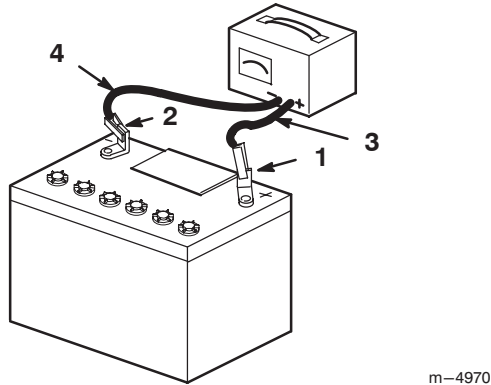

Figure 3
- Connect a charger to the battery (Fig. 3) and charge it for a minimum of 1 hour at 6 to 10 amps.
- When the battery is fully charged, unplug the charger from the electrical outlet, then disconnect the charger leads from the battery posts (Fig. 3).